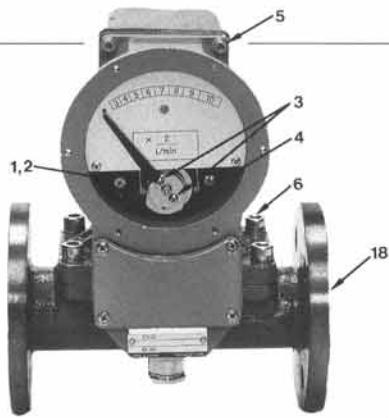

Fig. 4
Changing the setting of the change-over contacts *Refer to Figs. 4, 6 and 8.*
- 1. Turning the indicating device.** *Refer to Fig. 4.*
- 2. Turning the orifice plate housing.** *Refer to Fig. 4.*